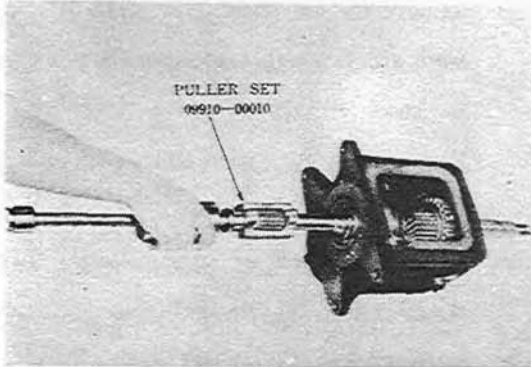

Fig. 3-18. Removing the front bearing from the transmission case with special tool.
11. Use a special tool, puller set (09910-00010), and remove the main drive gear together with the front bearing from the case. (Fig. 3-18) Remove the spline shaft needle roller snap ring only if replacement of the spline shaft needle roller is necessary. If replacement of the front bearing is necessary, remove the main drive gear snap ring only, and then remove the bearing using a universal puller.